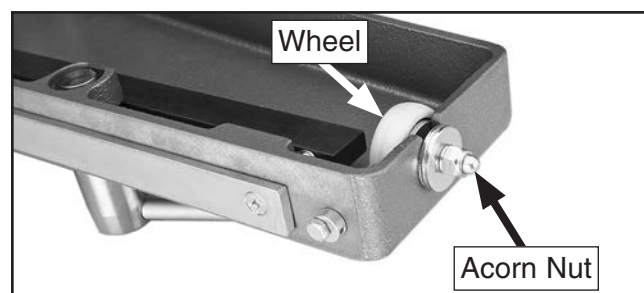

Figure 165. Rip fence base roller controls.
- If far end of fence base is too low, loosen fence lock and pivot rip fence base upwards to access wheel underneath (see **Figure 165**). Loosen acorn nut, adjust wheel position, retighten acorn nut, and place rip fence base back on table.